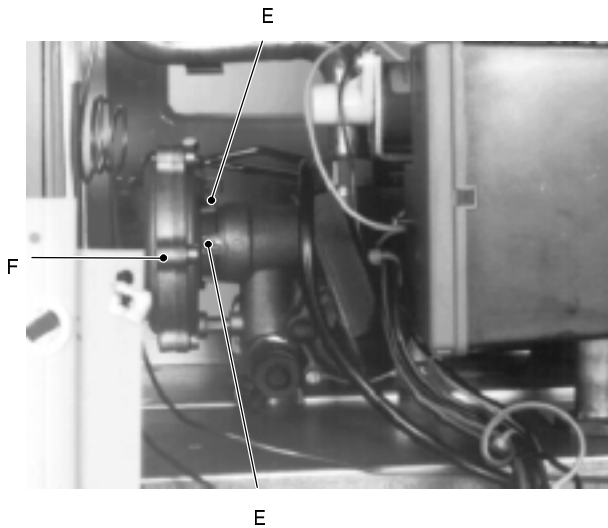

fig. 26
- 3 Loose the screws *E* and remove the hydraulic actuator *F* (fig. 26).